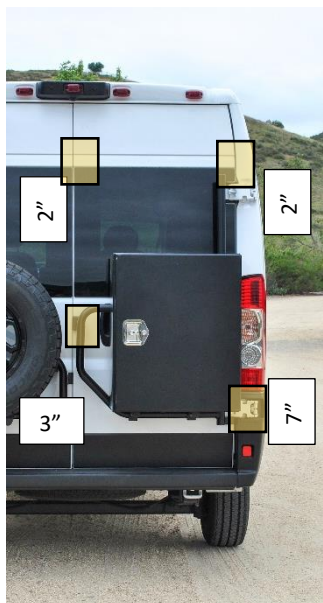

Figure 1: Locations of Protective Film Application
6. Apply the protective tape to the outside of the door (Figure 1). At the upper and lower hinge location, leaving approximately ½” of tape overhanging to be wrapped around the edge of the door. Leave the tape overhanging for now.